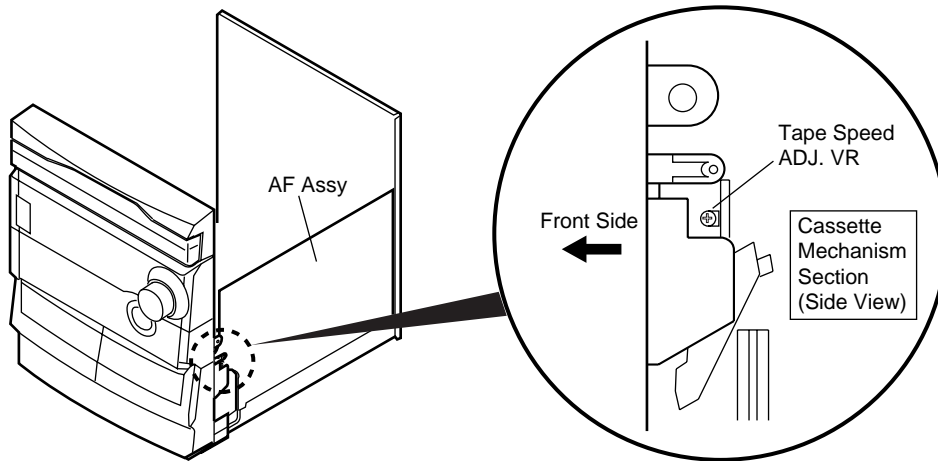

Fig.8 Tape Speed ADJ. Point
• Adjustment points and test points are shown in Fig.8, Fig.10 and Fig.11.